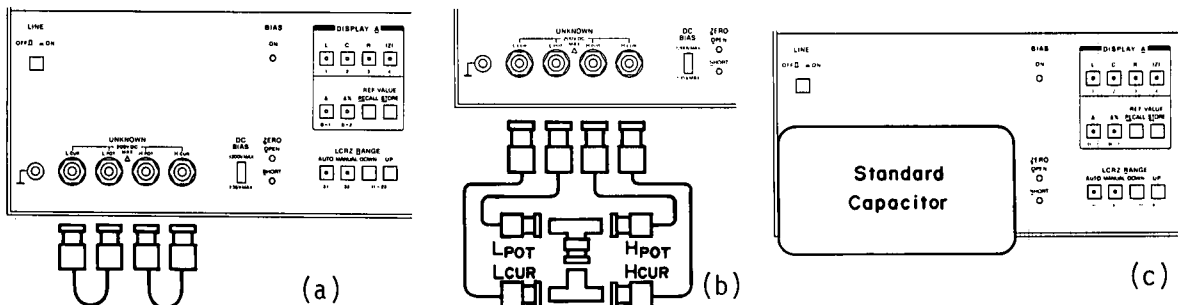

Figure 4-4. Capacitance Accuracy Test Setups.
1. Connect  $L_{CUR}$  and  $L_{POT}$  terminals with a BNC to BNC cable as shown in Figure 4-4 (a). Similarly Connect  $H_{CUR}$  and  $H_{POT}$  terminals.
4. Connect cables and terminal adapters as shown in Figure 4-4 (b). Connect BNC tee adapters to each other.
6. Disconnect cables and connect 1pF Standard Capacitor direct to UNKNOWN terminals as shown in Figure 4-4 (c).